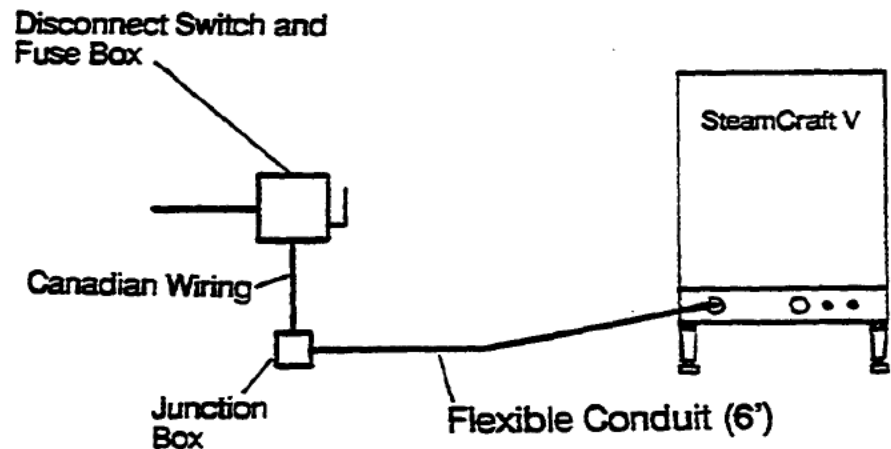

Figure 2-17. Canadian Connection Diagrams
- Connect the wires from SteamCraft V flexible cable to those in the Junction box according to figure 2-17.